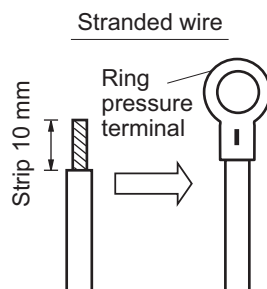
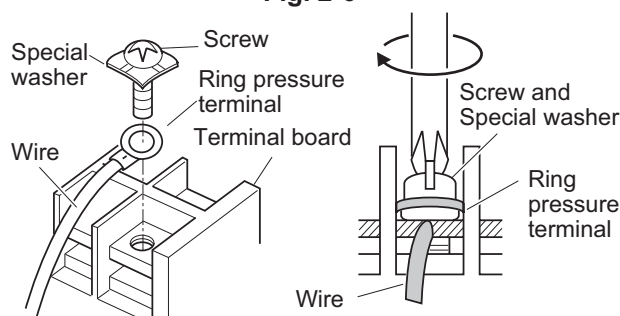

Fig. 2-6
Fig. 2-7
- (1) Cut the wire end with cutting pliers, then strip the insulation to expose the stranded wiring about 10 mm and tightly twist the wire ends. (Fig. 2-6)
- (2) Using a Phillips head screwdriver, remove the terminal screw(s) on the terminal board.
- (3) Using a ring connector fastener or pliers, securely clamp each stripped wire end with a ring pressure terminal.
- (4) Place the ring pressure terminal, and replace and tighten the removed terminal screw using a screwdriver. (Fig. 2-7)